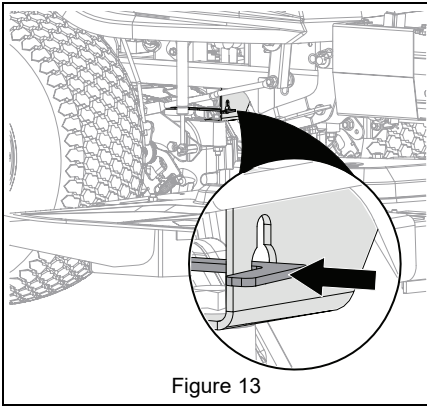

Figure 13
5. Return transaxle bypass levers to operating position. See Figure 13.